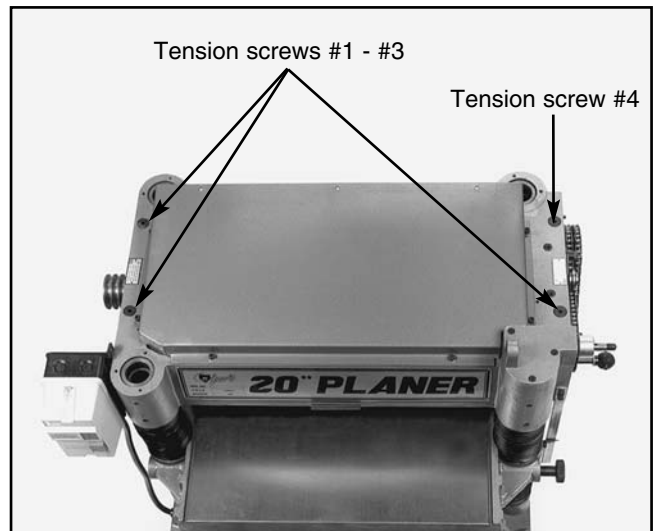

Figure 19. Tension screw locations.
1. Locate the four adjustment screws located on the top of the planer. **See Figure 19.**